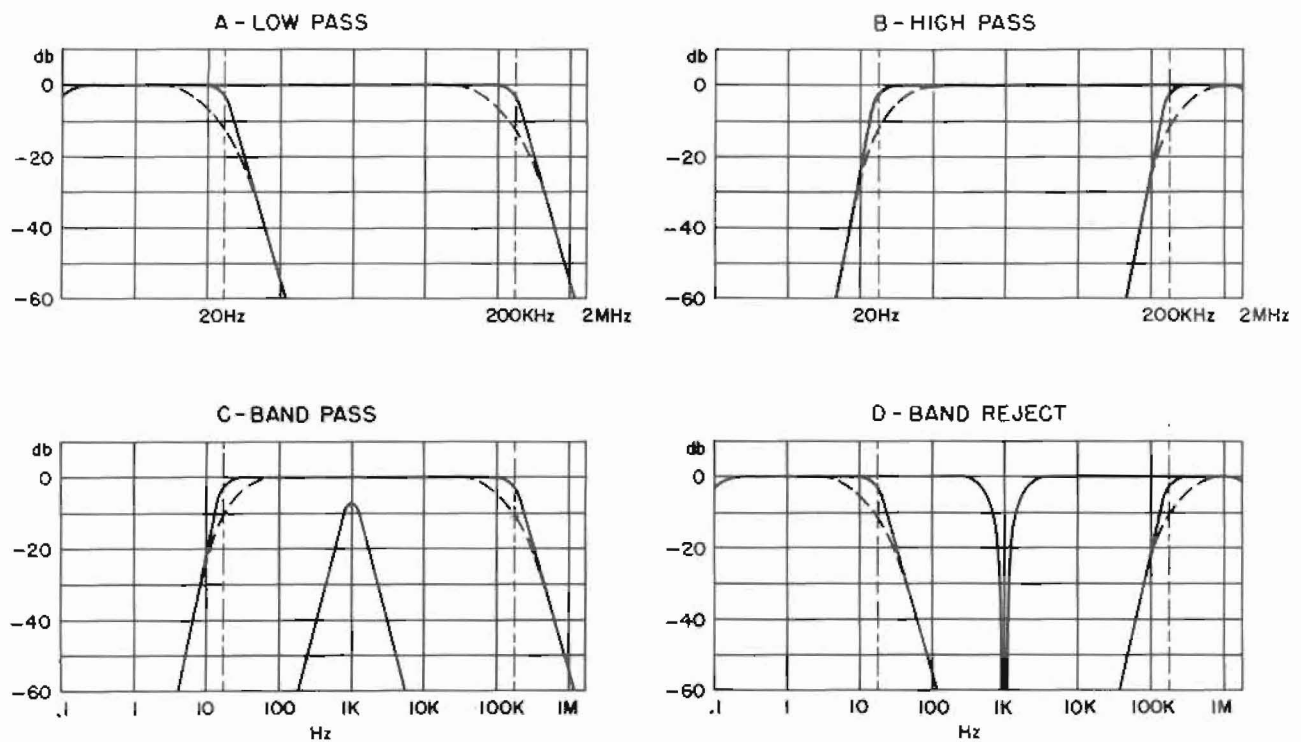
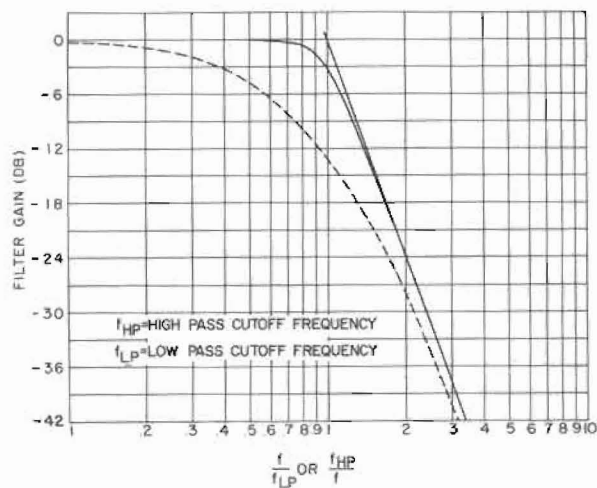
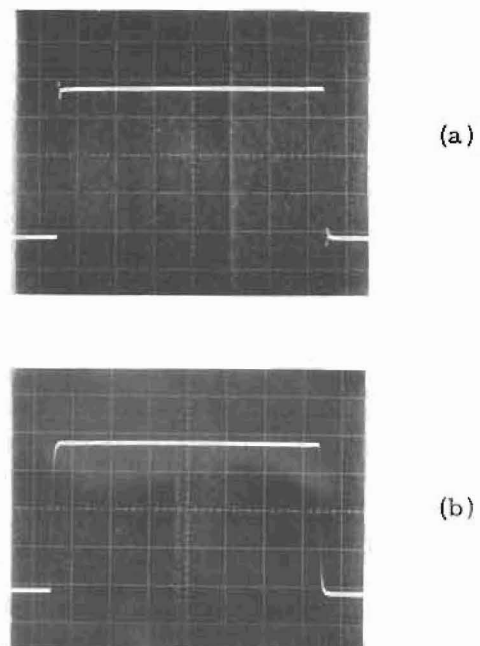

Figure 2-2. Pass Band Characteristics
Figure 2-3.
Figure 2-4. Square Wave Response
This response is plotted as the solid curves in Figure 2-2, curves A and B, and normalized on a larger scale as in Figure 2-3. It hugs the 0-dB line very closely with no ripples almost to the cutoff frequency, and then keeps close to the 24dB/octave asymptote, departing 1dB from these lines at f/f_o = 0.8 and 1.25 respectively.
The limitations of this type of filter are apparent in Figure 2-4(a) which shows the step-function response of a fourth order Butterworth low pass. For applications where this eleven percent overshoot cannot be tolerated, the Model 3550 provides the LOW Q position of the RESPONSE switch. In this mode the sharpness of the cutoff is reduced just enough to eliminate the step-function overshoot (see Figure 2-4(b)). The frequency response of the LOW Q mode is shown by the dotted curves in Figure 2-2 (curves A and B). Obviously, the cutoff is much less sharp, the attenuation at the corner is approximately 12 dB and the 1 dB points are at 0.2 and 5 times the cutoff frequency.
3. Referring to Figure 2-3: